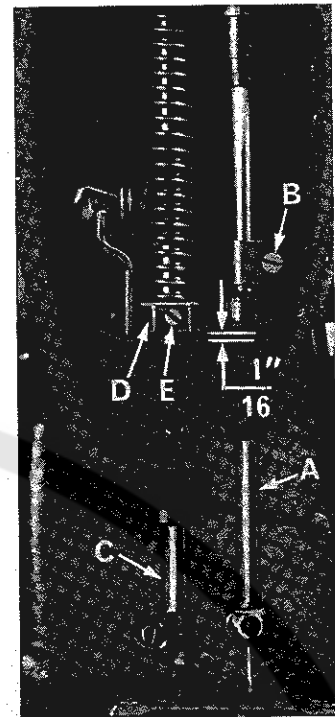
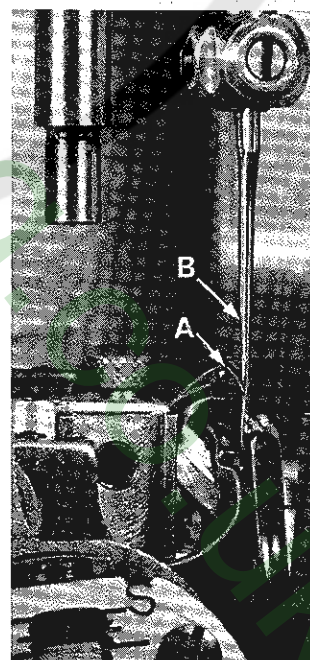
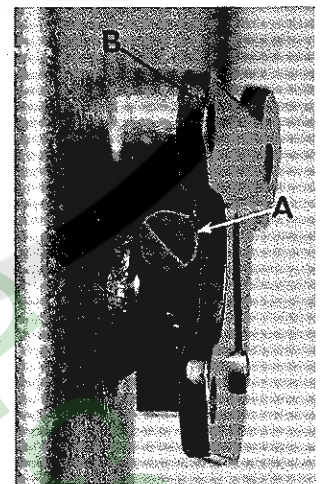

Fig. 4
Fig. 7
Fig. 12
Align the needle bar (A, Fig. 4) and set to height, using the proper test pins and test plate of the right gauge. See chart below:
If test plate and test pins are not available, insert a new set of needles (Type and Size as required) and align the needle bar so that the needles correspond with the vertical face of the needle guard. To turn needle bar, loosen needle bar clamp screw (B, Fig. 4) and turn bar as required. Tighten clamp screw.
The looper is set correctly in line-of-feed, if, as it moves to the left, behind the needle, its point (A, Fig. 7) brushes, but does not pick at the rear of the needle (B).
The height of the needle (B, Fig. 7) is correct when the top of its eye is 3/64 inch below the underside of the looper, with the looper point flush with the left side of the left needle. If adjustment is necessary, loosen screw (B, Fig. 4) and move needle bar (A) up or down as required and retighten screw. Care should be taken not to disturb the alignment of the needle bar when moving the needle bar either up or down.
If adjustment is needed, loosen tension release lever screw (A, Fig. 12), located at the back of the machine and move tension disc separator as required. Retighten screw. After adjustment there should be no binding at any point.
The height of the presser bar (C, Fig. 4) is set correctly if it is possible to remove the presser foot when the foot lifter lever (B, Fig. 12) is fully depressed. Also there should be approximately $1/16$ inch clearance between lower surface of the presser bar connection and guide (D, Fig. 4) and the bottom surface of head opening in the bed when the foot lifter lever is released and the presser foot resting on the throat plate, with the feed dog down below the throat plate.